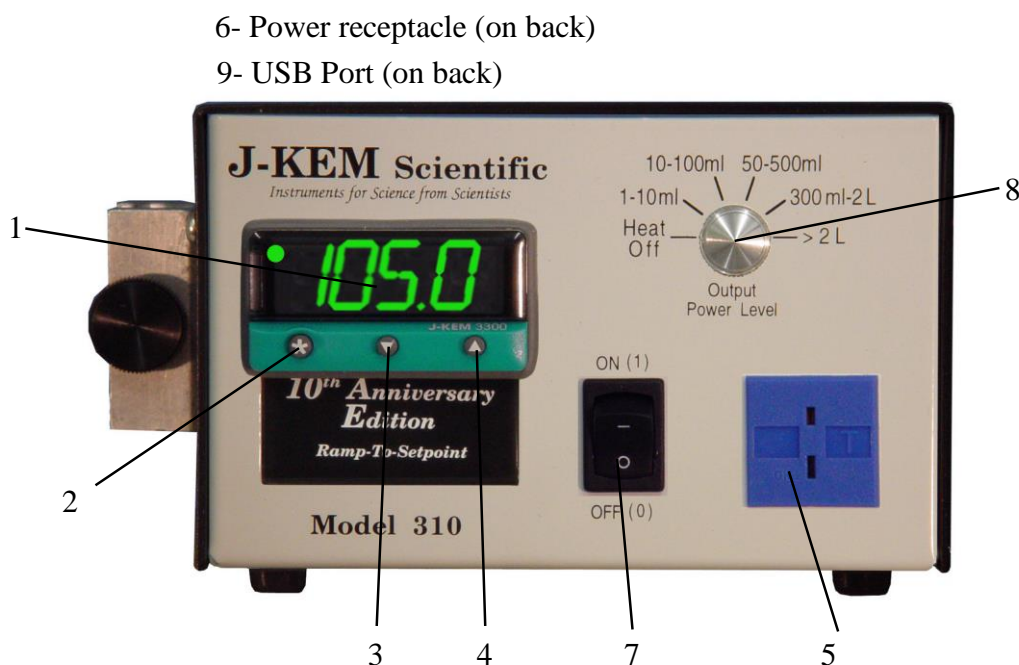

Figure 1
3.4 Temperature Sensor Input. Every controller is fitted with a specific *type* of thermocouple input and can only be used with a thermocouple of the same type. For the correct temperature to be displayed, the thermocouple type must match the receptacle type on the front of the controller (Figure 1; # 5). All thermocouples are color coded to show their type (Blue = type T; Yellow = type K; Black = type J). The color of the thermocouple plug must match the color of the receptacle on the front of the controller. If the thermocouple is broken or becomes unplugged, the error message “inPt FAiL” blinks in the temperature meter display and the controller stops heating.